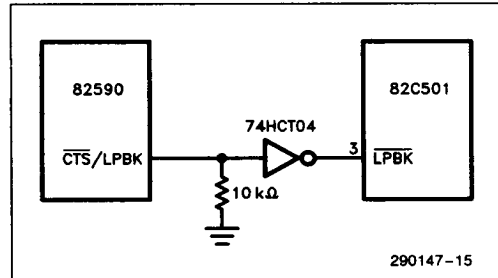

Figure 14. Loopback Output to the 82C501
- ④ **Automatic Retransmission on Collision During Preamble**—The 82590 can be programmed to retransmit automatically if it detects a collision during transmission of the preamble.
- ⑤ **On-Chip Jabber Inhibit Function**—The 82590 can be programmed to provide an on-chip jabber inhibit function.
- ④ **CRC Transfer to Memory**—The 82590 can be programmed to transfer the CRC field of a received frame into memory.
- ⑦ **Loopback Signal to the 82C501**—The 82590 can be programmed to provide an active High loopback signal to the 82C501 (see Figure 14).
- ⑩ **StarLAN**—The 82590 can be configured to recognize the IEEE 802.3 1BASE5 Collision Presence Signal (CPS). In this mode it also delays deactivation of the RTS signal at the end of a frame transmission in order to insert an end-of-frame marker according to the standard.